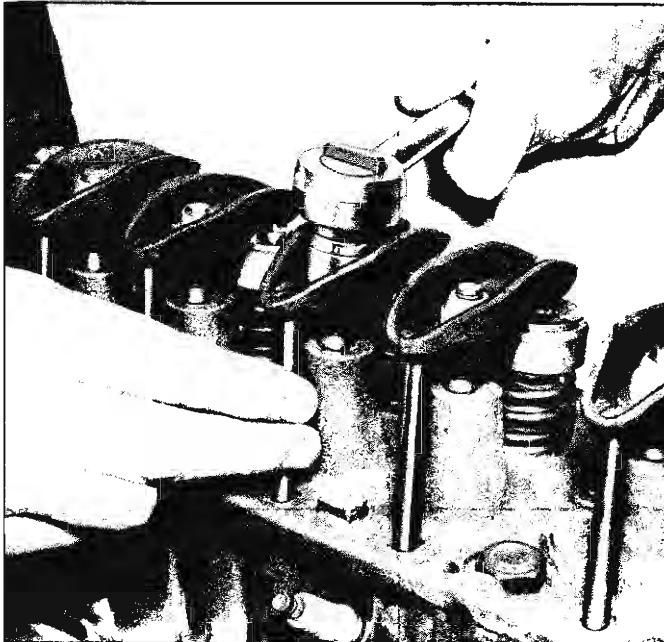

Fig. 8L—Valve Adjustment
- b. Turn adjusting nut until all lash is removed from valve train. This can be determined by checking push rod side play by hand while turning adjusting nut slowly (fig. 8L). At this point, turn adjusting nut one more turn to place the lifter plunger in center of its travel.